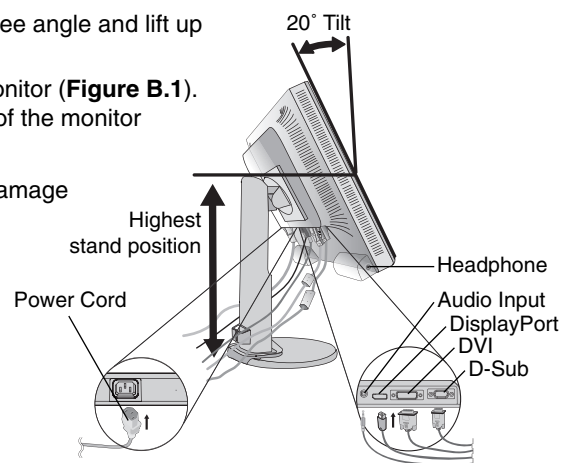

Figure B.1
4. Connect all cables to the appropriate connector on the back of the monitor (**Figure B.1**).
Connect the Headphone to the appropriate connector at the left side of the monitor (**Figure B.1**).